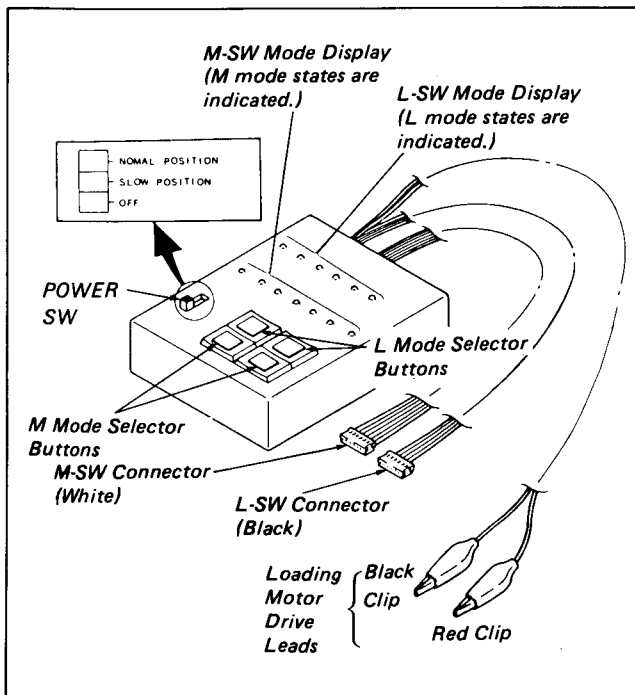

Fig. 8-3.
- 3) Connect each of red and black clip of the loading motor to each of red and gray loading motor drive lead wire, respectively. (See Fig. 8-3.)